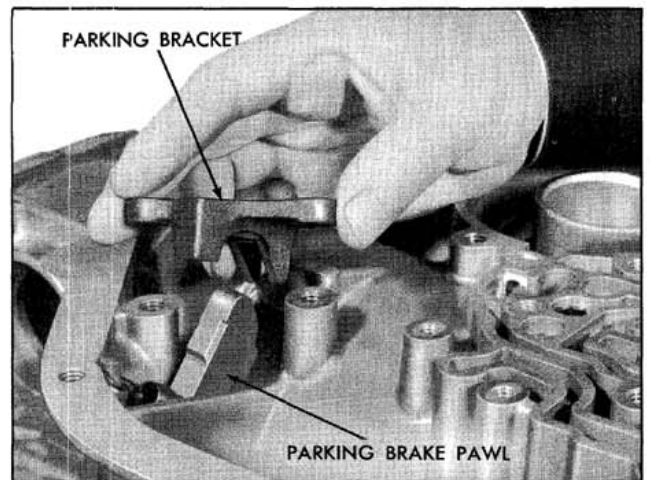

Fig. 6-63 Removing Parking Bracket
- g. Remove attaching bolts and parking bracket. (Fig. 6-63)